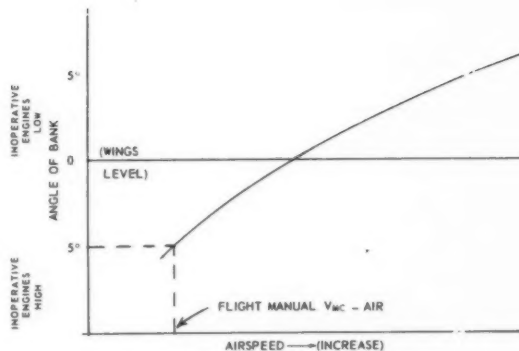

FIG. 1 - TYPICAL EFFECT OF BANK ANGLE ON  $V_{mc} - AIR$
FIG. 1 Simplified illustration shows the effect of unsymmetrical propeller thrust (P factor) on a tailwheel type aircraft rolling in a 3 point attitude, or on any aircraft at a high angle of attack. Note that the angle of attack (A) of the left blade, which is much shallower than that (D) of the right blade, which causes additional thrust on the right side of the propeller disc.
The most significant factor is that the angles of attack of the rising (ascending) and the descending prop blades are quite different with respect to the relative wind. This is especially true in the short coupled aircraft rolling on the three-point position on the ground. This is called the "P" factor and is illustrated in Figure 1.
As noted under Figure 1, the effect increases as the angle between the direction of motion of the aircraft and the prop axis increases, whether the aircraft is on the ground or in the air. This angle may be produced by having an aircraft that sits tail low on the ground (as with tail wheel aircraft), or by flight with the wing at a high positive angle of attack (such as climb or slow flight).